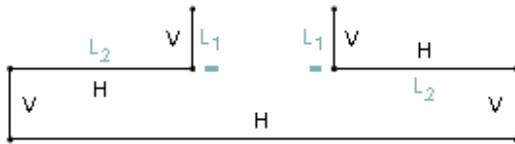

Figure 3-36 Lines in the sketch with the dimensions turned off for clarity
- b. Draw the sketch using sketcher tools, refer to Figures 3-36 and 3-37.
2. Draw the lines with constraints, as shown in Figure 3-36.